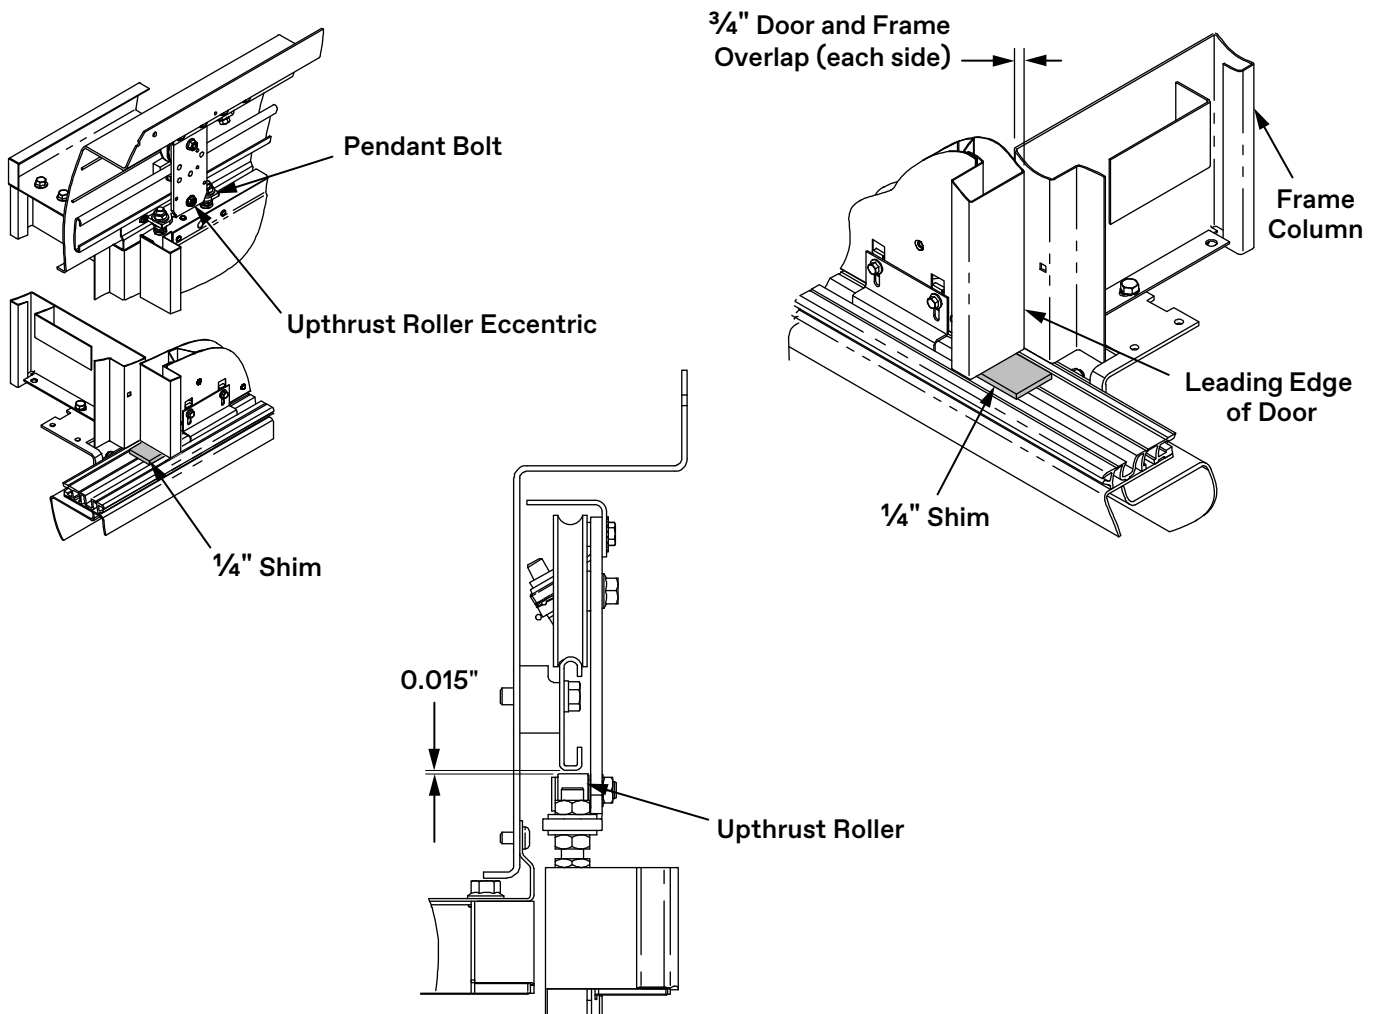

Figure 11 - Adjust Running Clearance
1. Place a $\frac{1}{4}$ " shim (running clearance) underneath each edge of door. See Figure 11.